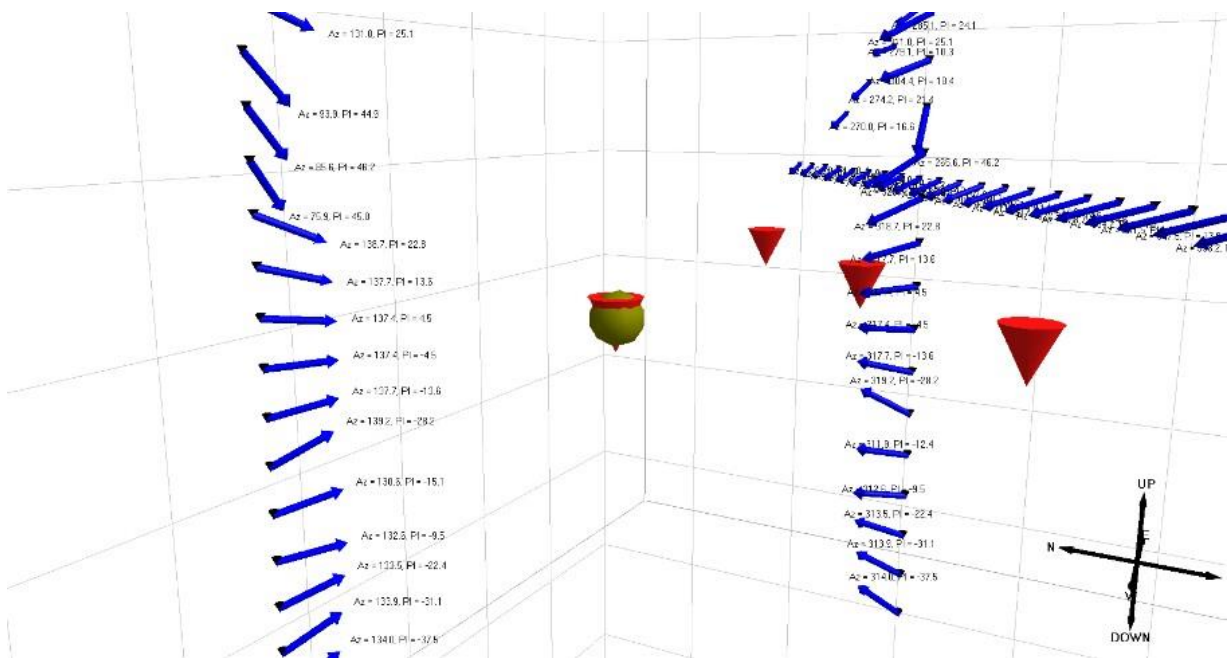

Figure 9-57: Event full 3D source vector visualisation
1. **Full3D** - show a single source vector for each instrument that includes both the azimuth and plunge (Figure 9-57).